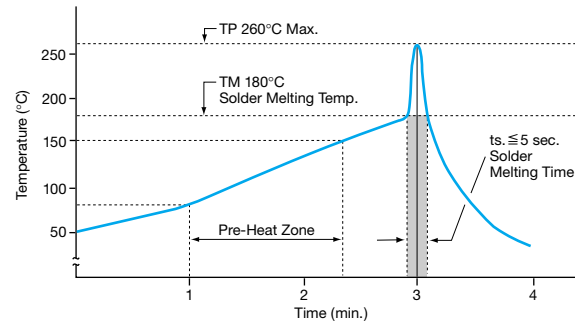

Figure 9: Recommended Flow Soldering Temperature Profiles For Through-Hole Trimmers.
2. Through-Hole Trimmers. Because the through-hole trimmer series encompass an extensive group of products, individual temperature profiles are not included under each through-hole trimmer series. The recommended pre-heating parameters for through-hole trimmers are 50°C to 150°C within a maximum exposure time of 3 minutes. The pre-heating and soldering temperature profile is specified in *Figure 9* under Soldering, Subsection 3.
3. Soldering Through-Hole Trimmers. Through-hole trimmers are soldered using flow (wave) equipment. Two popular methods for flow soldering are single wave or drag system. Since temperature profiles are not specified under each series of through-hole trimmers, follow the pre-heating and soldering temperature profile for through-hole trimmers specified in *Figure 9*.
Because there are many variations of board types and circuit designs with similar or mixed components, the parameters in *Figure 9* will serve as a guideline for user's production process. User must always test and verify the pre-heating and soldering parameters as well as other phases of production before final production.